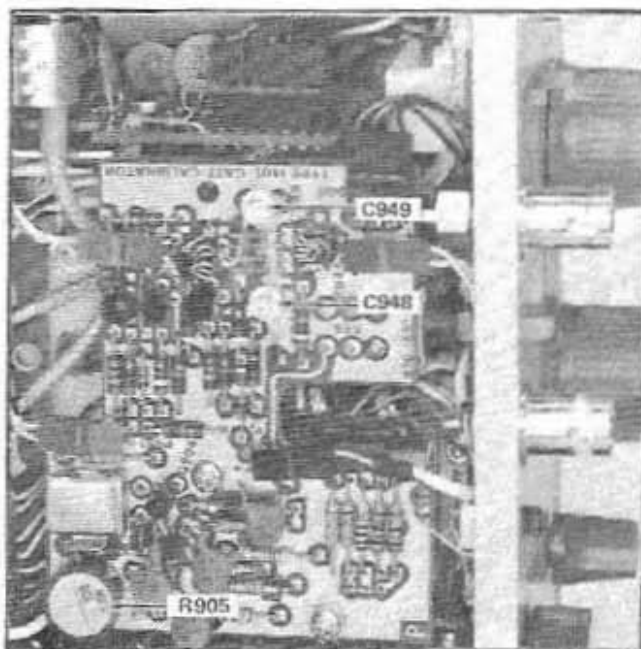

Fig. 6-17 Calibrator and Gating circuit adjustments.
h. ADJUST—If necessary, remove the instrument from its case and adjust the output level of the calibrator with R905 (Fig. 6-17) until it equals -30 dBm.